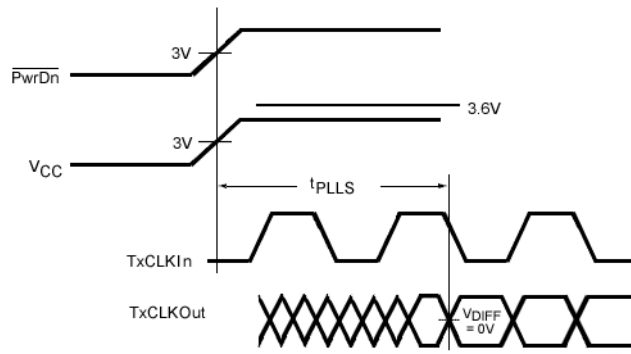

FIGURE 11. Transmitter Phase Lock Loop Set Time
- Switching input data TxIn0 to TxIn20 at 0.5 MHz, and the input clock is shifted to left -3ns and to the right $+3\text{ns}$ when data is HIGH (by switching between CLK1 and CLK2 in Figure 11)